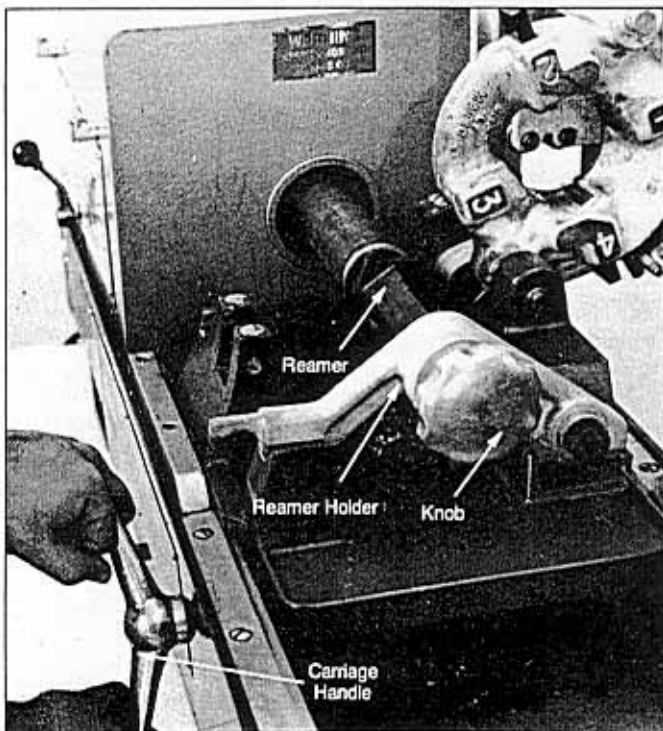

Figure 8 — Reaming Pipe
1. A reamer (Fig. 8) is provided to remove burrs from inside diameter of cut pipe. To use reamer, raise cutter and die head. Swing reamer down into alignment with pipe.